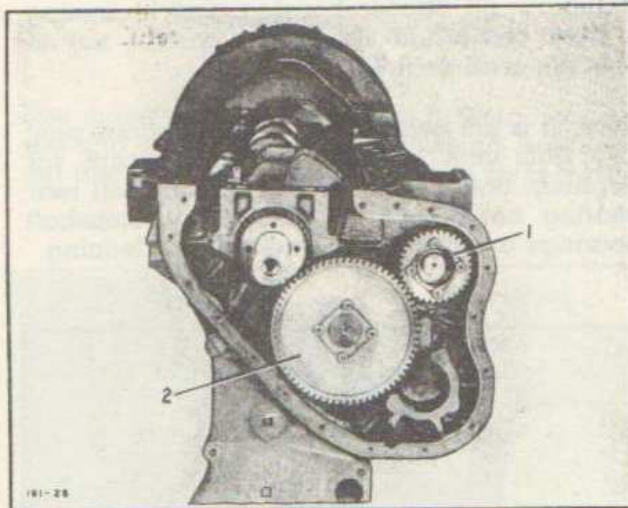

Fig. 58—View Identifying Accessory Shaft and Camshaft Gears
Bend down ears of compressor driving sprocket nut lock and remove nut. Install pulling screws of puller tool in two holes provided for them in compressor driving sprocket. Pull off sprocket and governor driving gear assembly. Be very careful not to damage compressor oil tube which protrudes from end of accessory shaft. The compressor depends upon this tube for its lubrication and if it is damaged in any way it must be renewed. Accessory shaft, and gear (1), Figure 58, can now be removed by pulling out from front of engine.
### Removing Camshaft (See Figure 58)